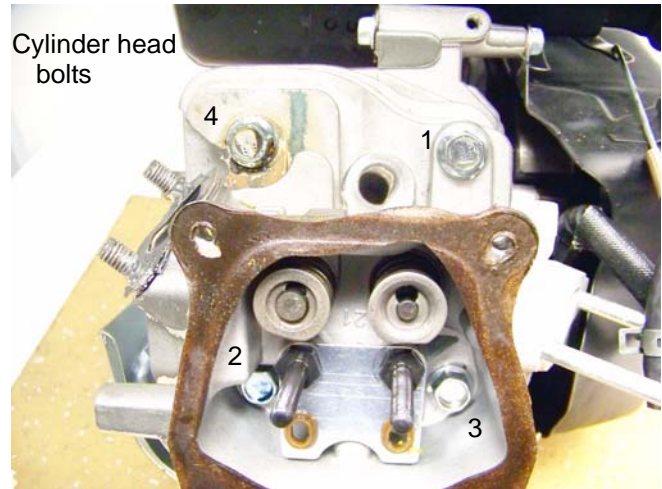

Figure 9.6
13. Remove the cylinder head bolts using a 12mm wrench. See Figure 9.6.